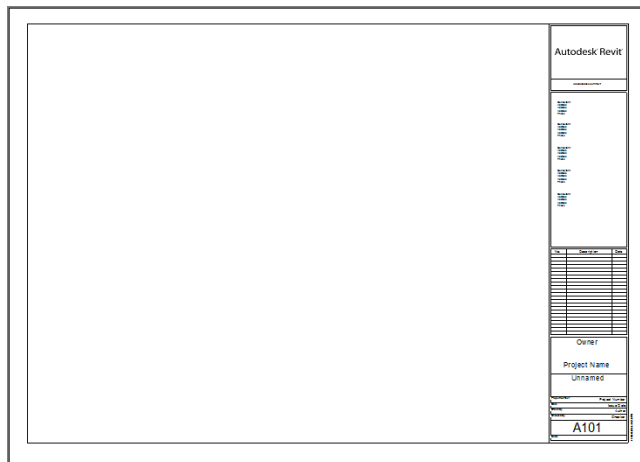

FIGURE 11.16: A new sheet, ready to be populated
5. You now have a new sheet containing a blank title block, as shown in Figure 11.16.